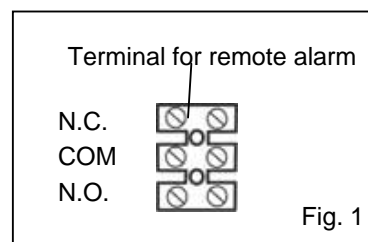

Fig. 1
1. Open the cover and let down the lever of the pen holder; the pen point is apart from the chart. (Fig. 1)